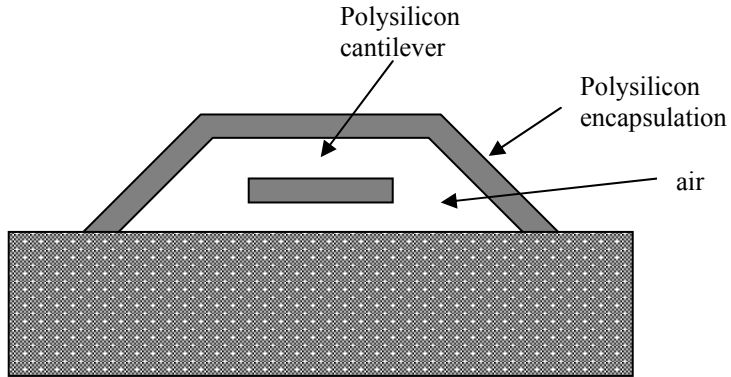

Figure 1
- a. (10 points). Figure 1 show an encapsulated cantilever in the air. Show the process steps to accomplish this device by cross sectional fabrication steps